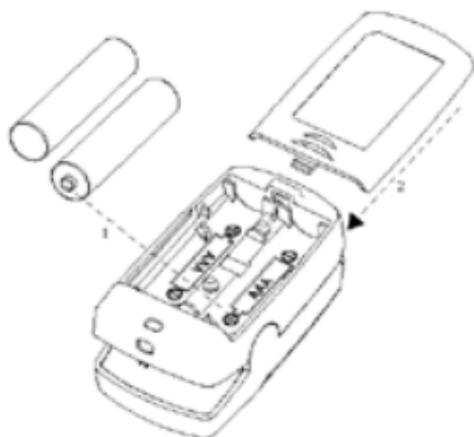

Figure 3 Battery Installation
1. Refer to Figure 3, insert two AAA size batteries into the battery compartment properly.